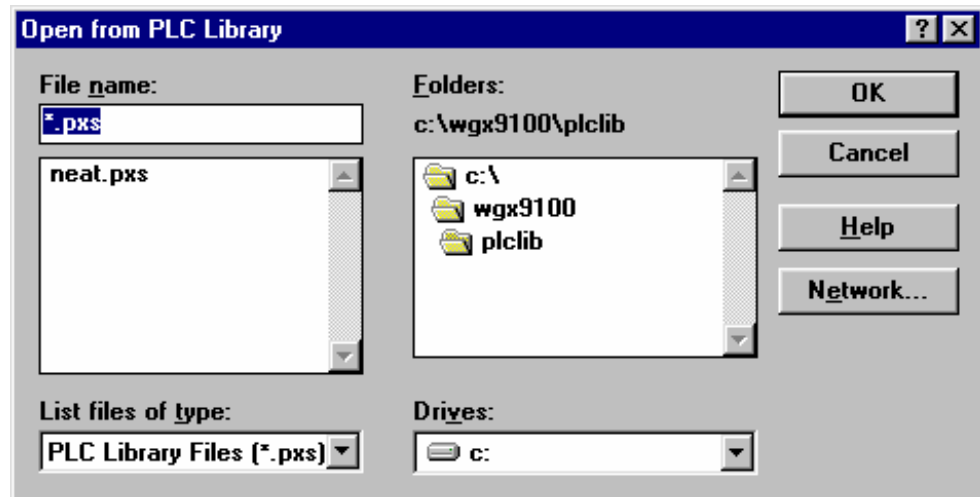

Figure 5-12: Open from PLC Library Dialog Box
1. On the File menu, click Open. The Open from PLC Library dialog box appears (Figure 5-12).